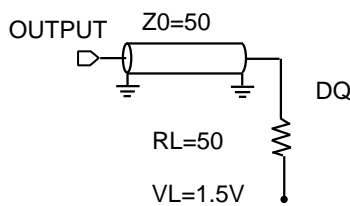
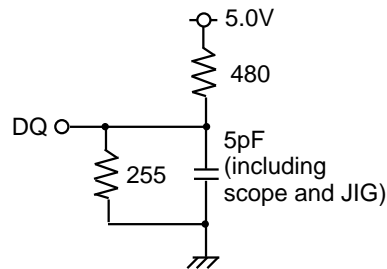

Fig.1 Output load
Fig.2 Output load for  $t_{en}, t_{dis}$
**(1) MEASUREMENT CONDITION**
- Output loads ..... Fig.1, Fig.2
4. Transition is measured  $\pm 500\text{mV}$  from steady state voltage with specified loading in Figure 2.